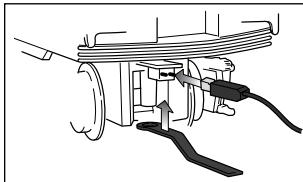

Figure 1. Connections
2. Place your Subway Set on Lionel or Lionel-compatible O-36 or wider track and connect the drawbar and tether between the cars as illustrated in Figure 1. Note that the tether is 'keyed' and will plug in only one way. Connection is marked "UP" for clear identification.
1. Place your Subway on Lionel or Lionel-compatible O-36 or wider track and connect the drawbar and tether between the cars as illustrated in Figure 1. Note that the tether is 'keyed' and will plug in only one way. Connection is marked "UP" for clear identification.
2. Power your Subway Set at 12-18 volts with your alternating current (AC) transformer.